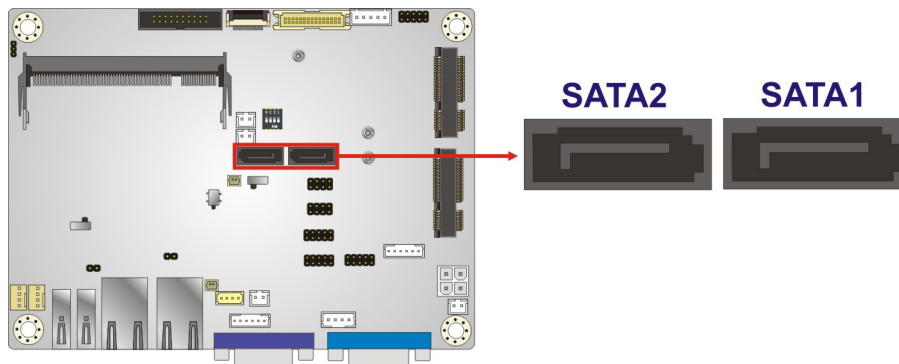

Figure 3-20: SATA 3Gb/s Drive Connectors Locations
- CN Location: See **Figure 3-20**